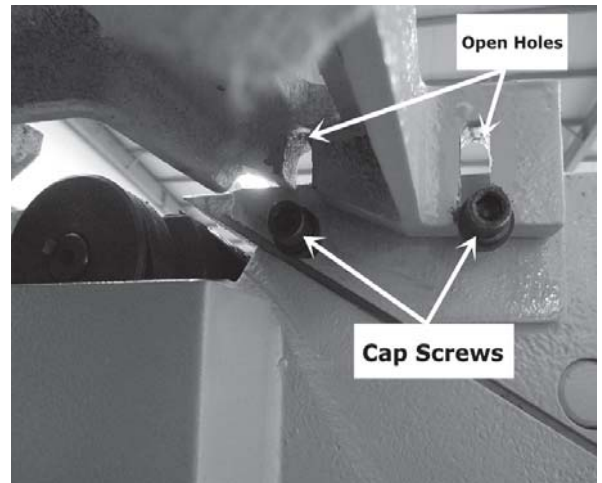

Figure 23
3. Line up two open holes on the fence carriage with the two cap screws. (Fig. 23)